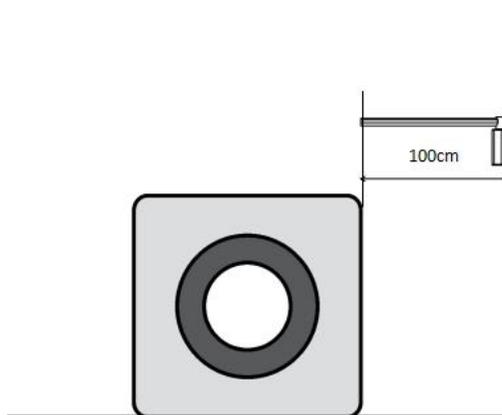

Figure 9.3-3 Distance of CT
- 4) The wall mount system can be installed on both sides of the CT, the distance between CT and device is not less than 100cm as Figure 9.3-3 or 100-185cm Figure 9.3-4, it is recommended to determine the installation distance according to the actual scene to ensure the maximum swing of the ceiling mount, also can reduce the interference between the device and the CT. Below is the size information: